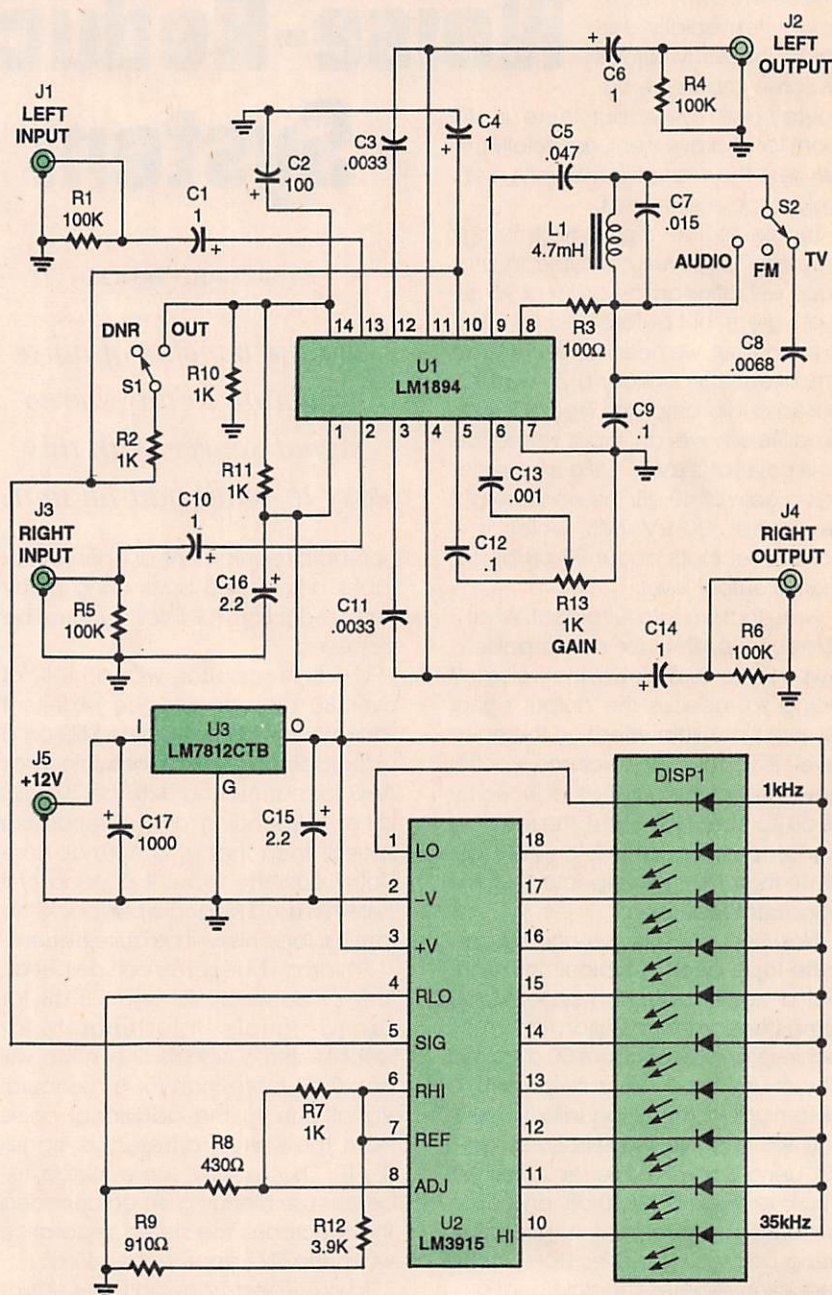

Fig. 2. The Universal Noise Reduction System is built around the National LM1894 integrated circuit. That IC contains the complete DNR circuit.
**Circuit Description.** A schematic diagram of the *Universal Noise Reduction System* is shown in Fig. 2. The heart of the circuit is U1, an LM1894 DNR integrated circuit. That IC contains the complete DNR circuitry; the balance of the electronics are dedicated to support and user-convenience functions.